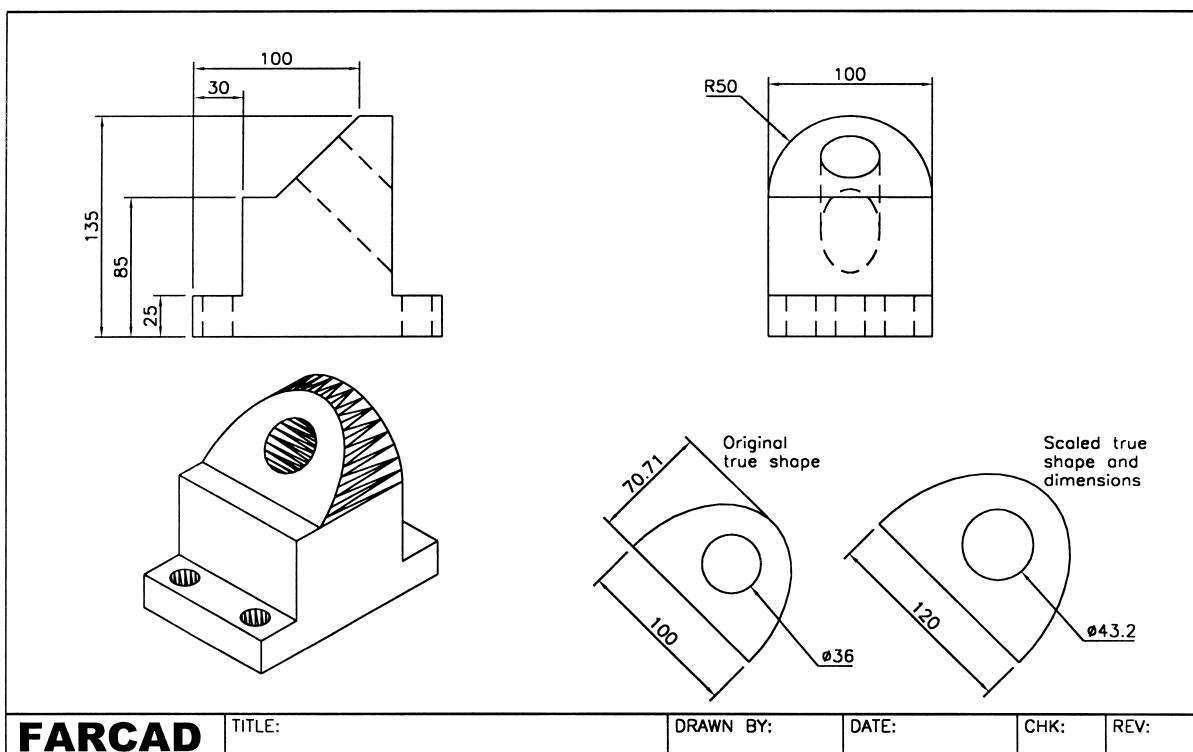

Figure 40.2 Paper space dimension exercise.
- 1 Open the profile drawing saved in the previous chapter and refer to Fig. 40.2